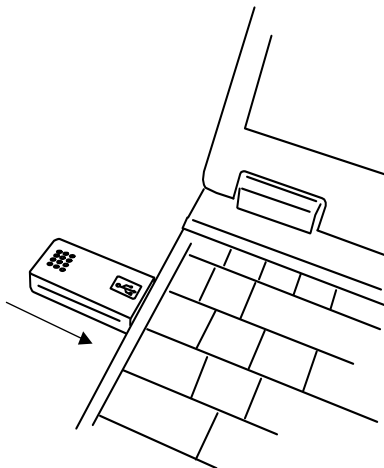

Figure 1. RF USB Dongle Connect
2. Plug the dongle into an available USB port as shown in Figure 1.